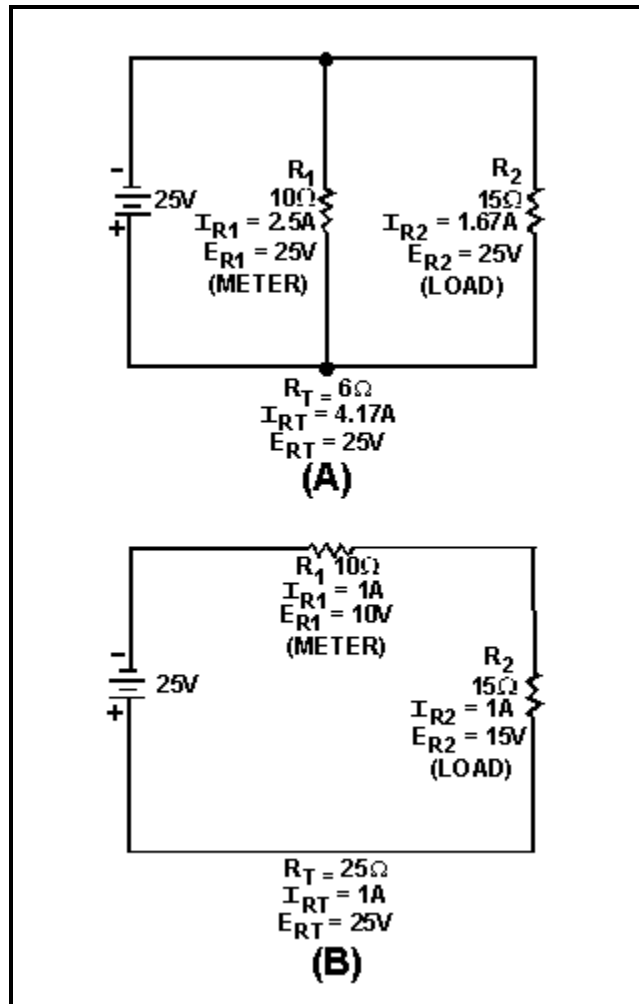

Figure 1-25.—Current and voltage in series and parallel circuits.
While ammeters are always connected in series, voltmeters are always connected in parallel. Figure 1-25 (and the following figures) use resistors to represent the voltmeter movement. Since a meter movement can be considered as a resistor, the concepts illustrated are true for voltmeters as well as resistors. For simplicity, dc circuits are shown, but the principles apply to both ac and dc voltmeters.
Figure 1-25(A) shows two resistors connected in parallel. Notice that the voltage across both resistors is equal. In figure 1-25(B) the same resistors are connected in series. In this case, the voltage across the resistors is not equal. If R_1 represents a voltmeter, the only way in which it can be connected to measure the voltage of R_2 is in parallel with R_2 , as in figure 1-25(A).